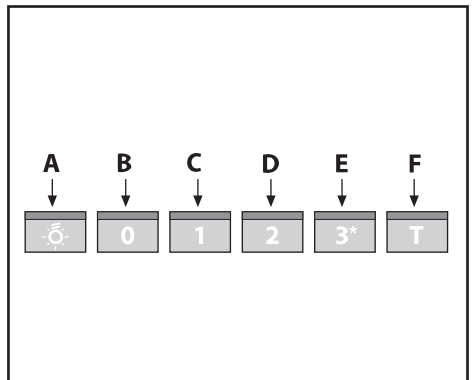

Fig.11
• **Bright Control (Fig.11)** the key symbols are explained below: